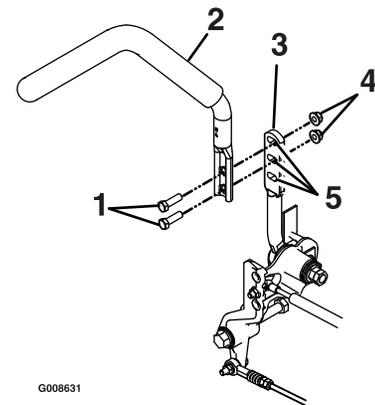

Figure 34
1. Remove the two bolts holding the control lever to the control arm shaft (Figure 34).
2. Loosen the lower bolt just enough to pivot the control lever fore or aft Figure 34. Tighten both bolts to secure the control in the new position.